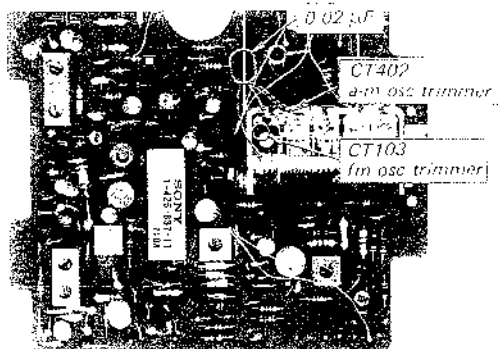

Fig. 3-2. Interruption of fm or a-m local oscillator operation
**Note:** Local oscillator should be killed when performing this alignment. To stop the local oscillator's operation, short the oscillator capacitor with a 0.02 μF capacitor. See Fig. 3-2.